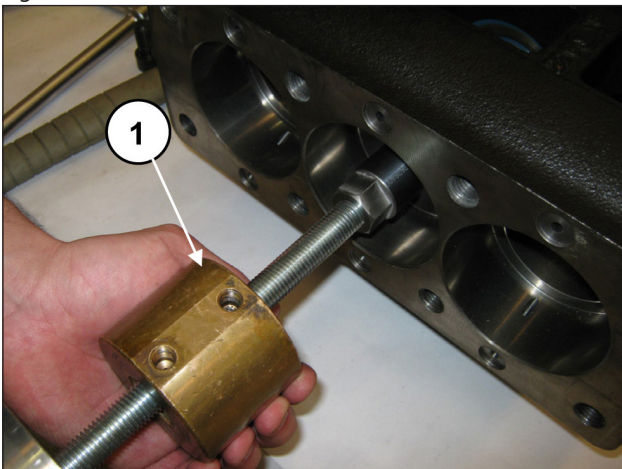

Fig. 36
Extract the seal ring using the tool extractor hammer (pos. ①, Fig. 36).